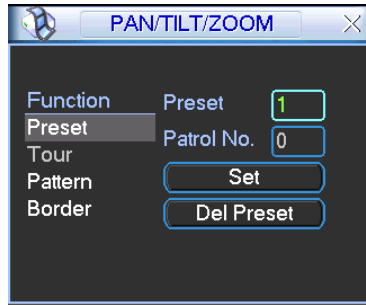
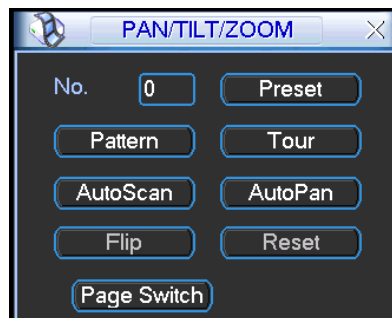

Figure 4-36
Figure 4-37
In Figure 4-33, please click the “set” button. The interface is shown as below. See Figure 4-36. Here you can set the following items:
In Figure 4-33, click page switch button, the interface is shown as in Figure 4-37.
- The following setups are usually operated in the Figure 4-33, Figure 4-36 and Figure 4-37 .
In Figure 4-36, click preset button and input preset number. The interface is shown as in Figure 4-38.
In Figure 4-37, please input preset number in the No. blank, and click preset button.
In Figure 4-36, click patrol button. The interface is shown as in Figure 4-39. Input preset number and add this preset to a patrol (tour). For each patrol (tour), you can input max 80 presets.
In Figure 4-36, input patrol (tour) number in the No. blank and click patrol button
In Figure 4-36, click pattern button and then click “begin” button. The interface is shown as in Figure 4-40. Then you can go to Figure 4-33 to modify zoom, focus, and iris.
In Figure 4-37, input mode value in the No. blank, and click pattern button.
In Figure 4-36, click border button. The interface is shown as in Figure 4-41.
In Figure 4-37, click "Auto Scan" button, the system begins auto scan. Correspondingly, the auto scan button becomes Stop button. Click stop button to terminate scan operation.
In Figure 4-37, click page switch button, you can see an interface is shown as below. See Figure 4-42. Here you can set auxiliary function. The aux value has relationship with the Aux button of the decoder.